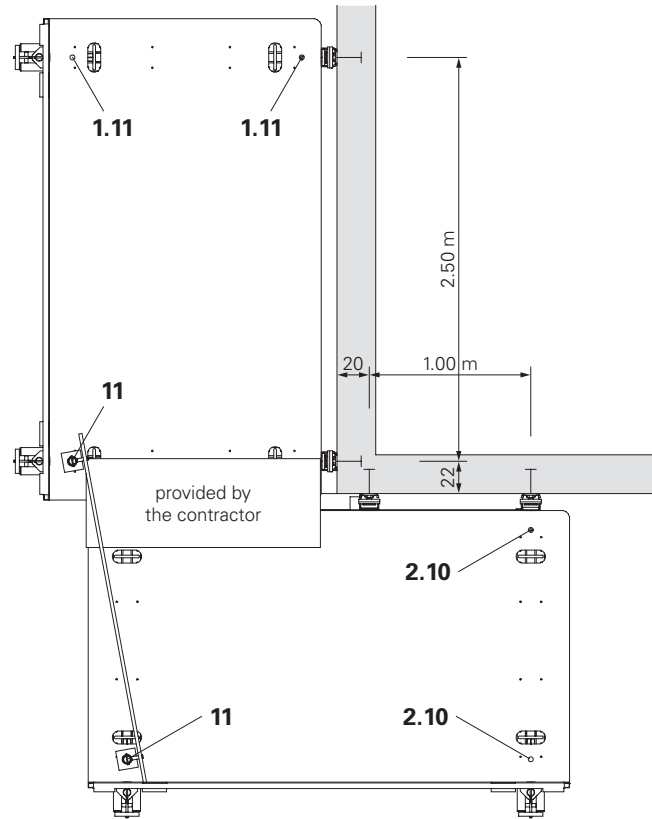

Fig. A4.05
1. On the free side of the folding corner platform and the main platform, screw 2x End Posts FBP (11) into the multi-purpose connectors (1.11/2.10).
4. The gap in the deck between the folding corner platform and the main platform around the corner is closed with site material. (Fig. A4.05 + A4.06)